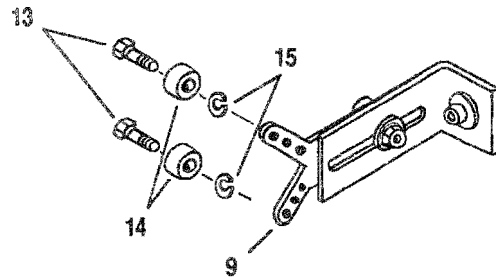

Fig. 6
6. Thread shoulder screws (13) through ball bearings (14) and lock washers (15), then into the Y-bracket support (9), as illustrated in Fig. 6.